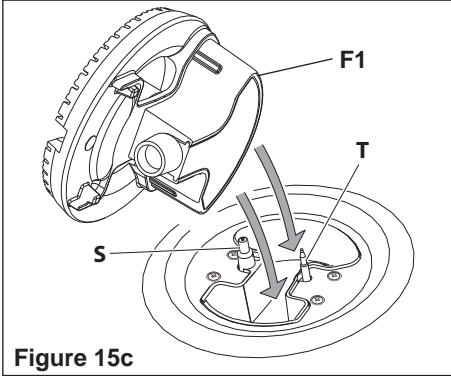

Figure 15c
It is very important to check that the burner flame spreader “F1” or “F2” and the caps “A”, “B” have been correctly positioned (see figs. 15c, 15d, 15e, 15f). Failure to do so can cause serious problems.
- Fit the flame spreader to the housing: the burner ribs must be fitted in their housing as shown by the arrows (see figs. 15c, 15d).